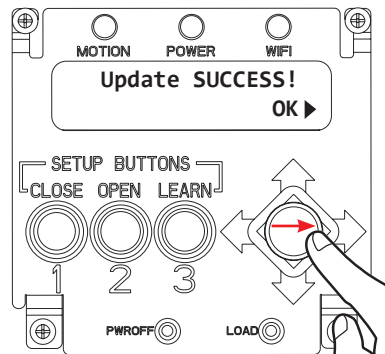

Figure 37
7. Press the joystick to the right to continue. (Figure 37)